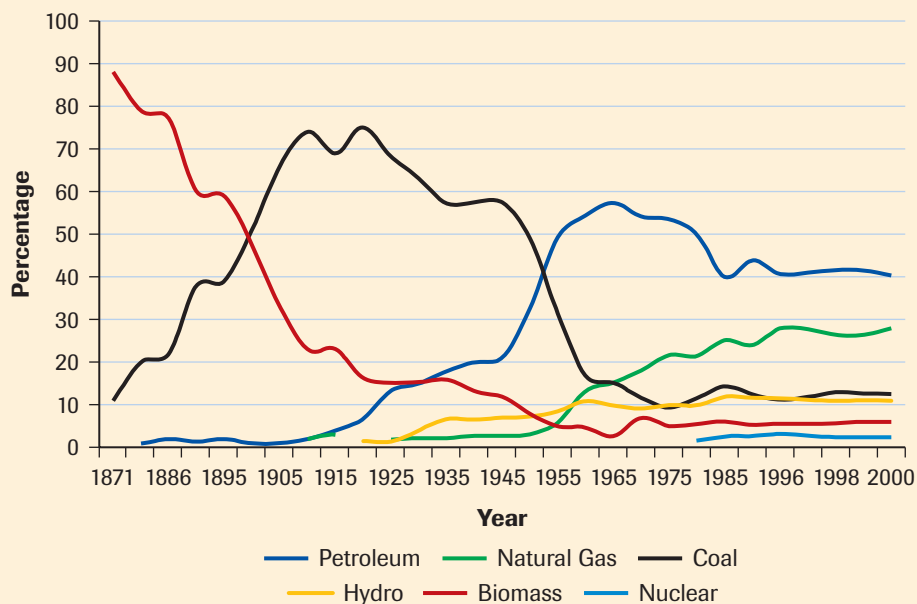

Figure 5
- There is an increasing use of natural gas and a decreasing use of petroleum in Canada (Figure 5).